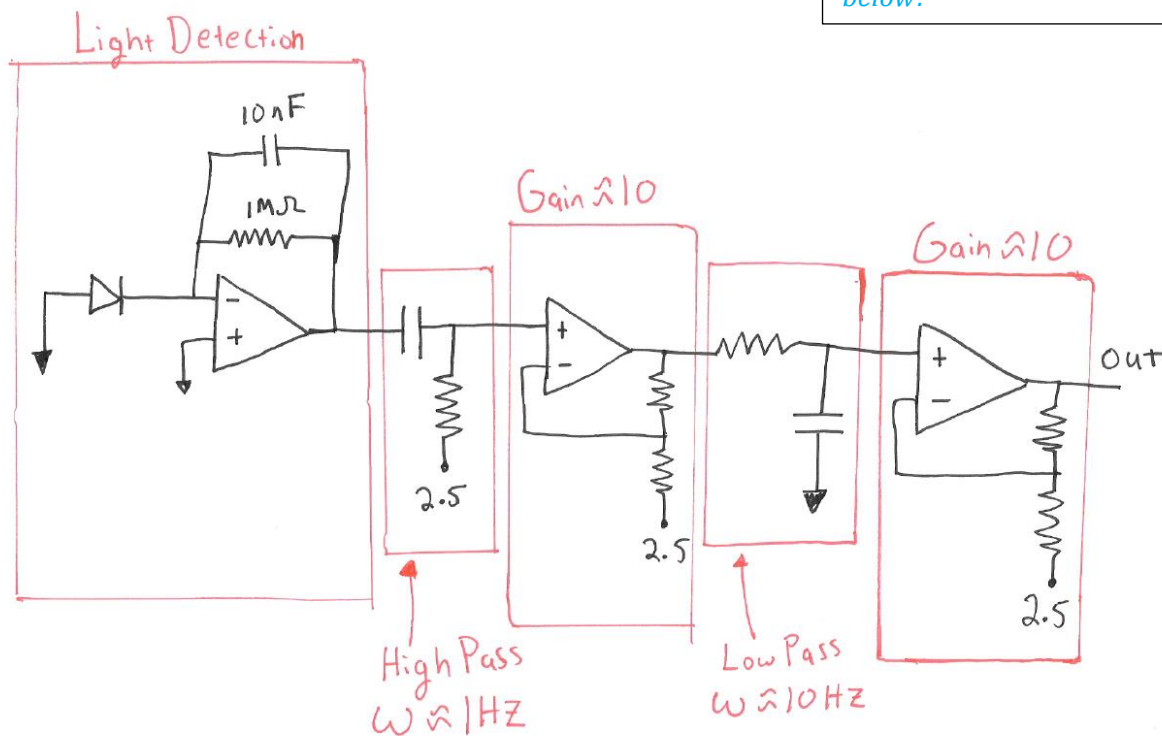

Figure 1: Circuit to measure the variation in light intensity through your finger.
- 1) Your final circuit schematic, i.e. a copy of Figure 1 but with your final values selected. You can hand sketch it. Include the resistor values on the schematic. Include the actual cutoff frequencies and amplifier gains. You can sketch the circuit, but it should be neat enough that someone else in the class could build the circuit off your drawing.
Design and build your circuit using Figure 1. Please note that there is no single “right” answer. Anything close to the specified functional range should work just fine. You could try a few values for each unknown component and see how the circuit behaves and what you like best.
Here is an example using Ch2+for V_{out} . The circuit uses the Figure 1 design with two amplifiers of Gain=11 each and filters that pass signals between 1 Hz and 10 Hz.